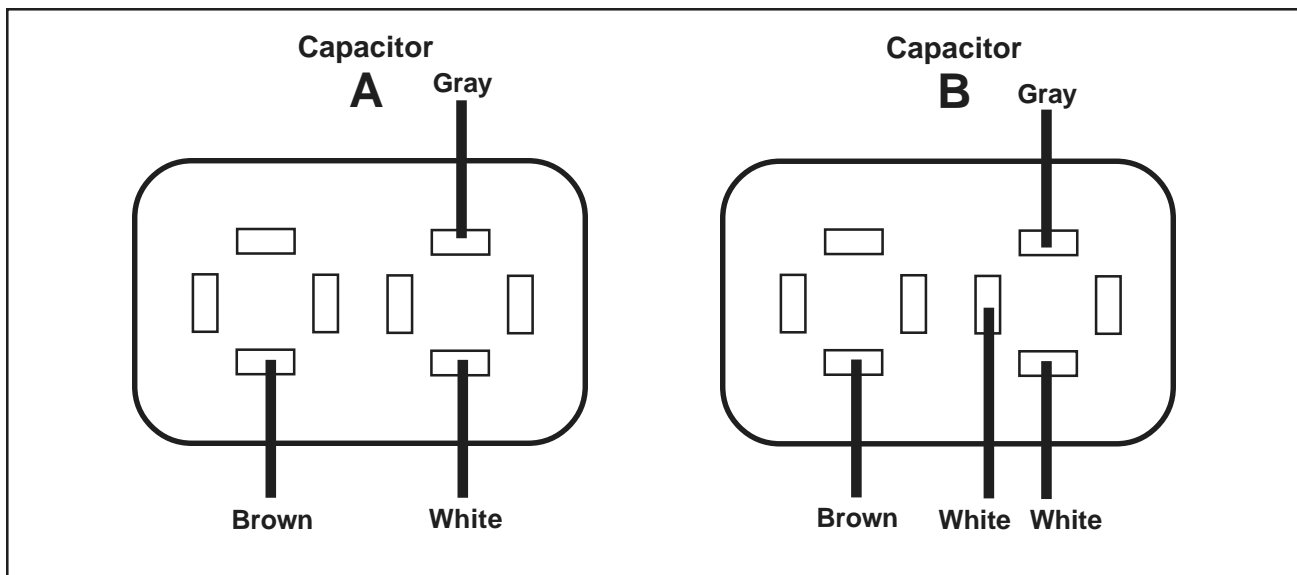

Figure 128. Wire Connections to Capacitors
1. Refer to Figure 128 and place the spade connectors on the new capacitor terminals.